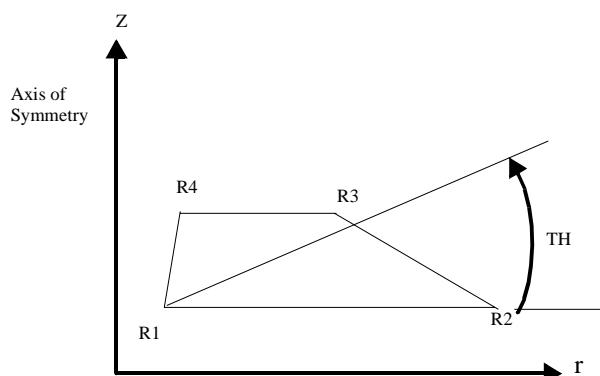

Figure 4-27 CTRAPAX sign convention for TH
- TH      Material property orientation angle in degrees. See Figure 4-27 for the TH sign convention. (Real)